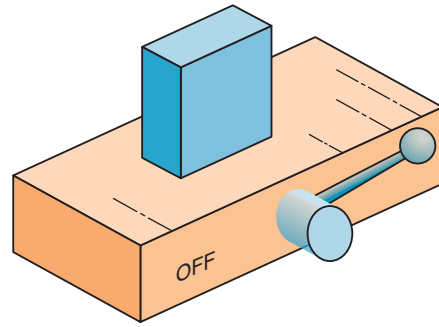

Figure 13-62 What is needed to make this setup safe?
4. On a sheet of paper, sketch the correct blocking for the cast iron object in Fig. 13-62 to be ground safely. Or describe it in words.